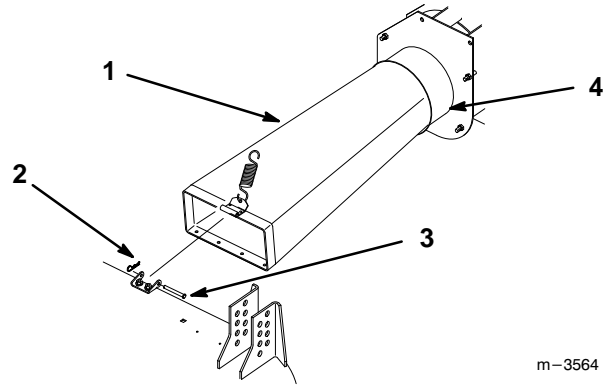

Figure 9
19. Raise mower and slide chute into blower inlet (Fig. 9).
20. Lower mower and slide chute forward against rear of mower. Secure chute to rear of mower latch with clevis and hairpin cotter (Fig. 9).